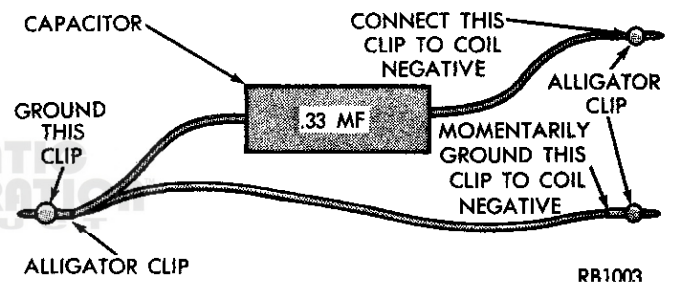

Fig. 16 Special Jumper Ground-to-Coil Negative Terminal
(5) Remove test lead from the coil positive terminal. Connect an 18 gauge jumper wire between the battery positive terminal and the coil positive terminal.
(6) Make the special jumper shown in Figure 16. Using the jumper, momentarily ground terminal-19 of the 60-way connector. A spark should be generated at the coil cable when the ground is removed.